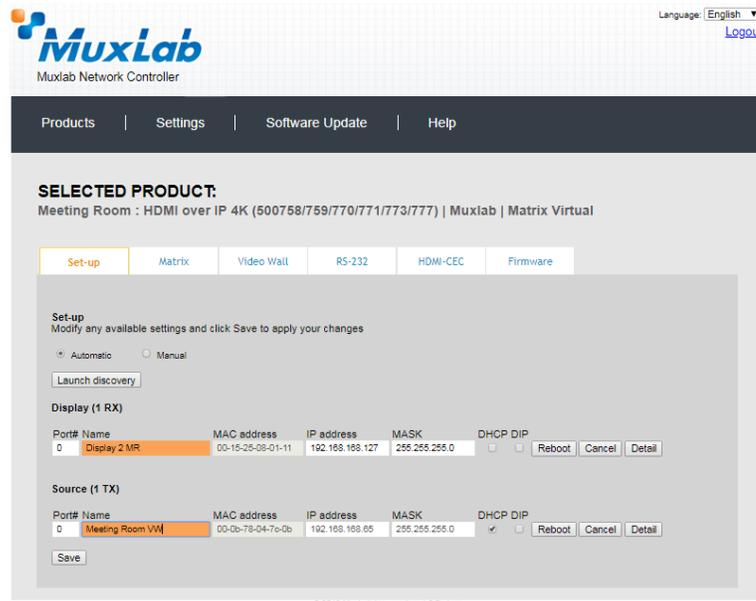

Figure 357: Name Editing
Each 500777 transmitter and receiver can be assigned an arbitrary descriptive name, normally reflecting the end device that it is terminated to. To change the name of any Source (TX) device, click the **Name** field to edit its contents. Several **Name** fields can be edited before saving changes, as shown in Figure 357 (orange highlighted fields).